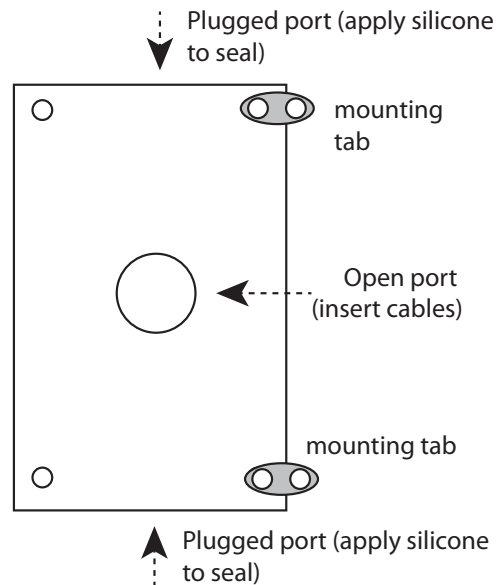

Figure 14: Preparation of the metal box.
1. The box ships with two metal tabs (each has two holes) and two screws. On the backside of the metal box you'll see a hole near each of the four corners of the box. These are untapped holes to which you can mount the metal tabs by inserting a screw into one of the holes. Referencing Fig. 14, screw a tab into the top and bottom holes and orient the tab so that it sticks out to the side of the box.